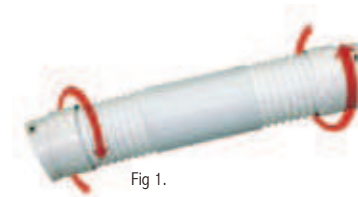

Fig 1.
A. Exhaust Hose and Connector : Fig 1.